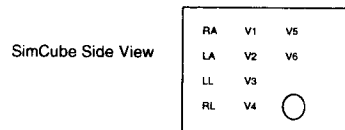

Fig. 3
9. **For ECG and Respiration testing,** connect the ECG cable from the monitor under test to the SimCube. Snap locations are indicated on the side of the SimCube and shown in Fig. 3. For 12 lead simulation and/or when using large snap heads or alligator clips, it may be necessary to use Snap Extenders (P/N Adapt-E) on the center column ( V1-4) of snaps. Snap extenders are available from Pronk Technologies.